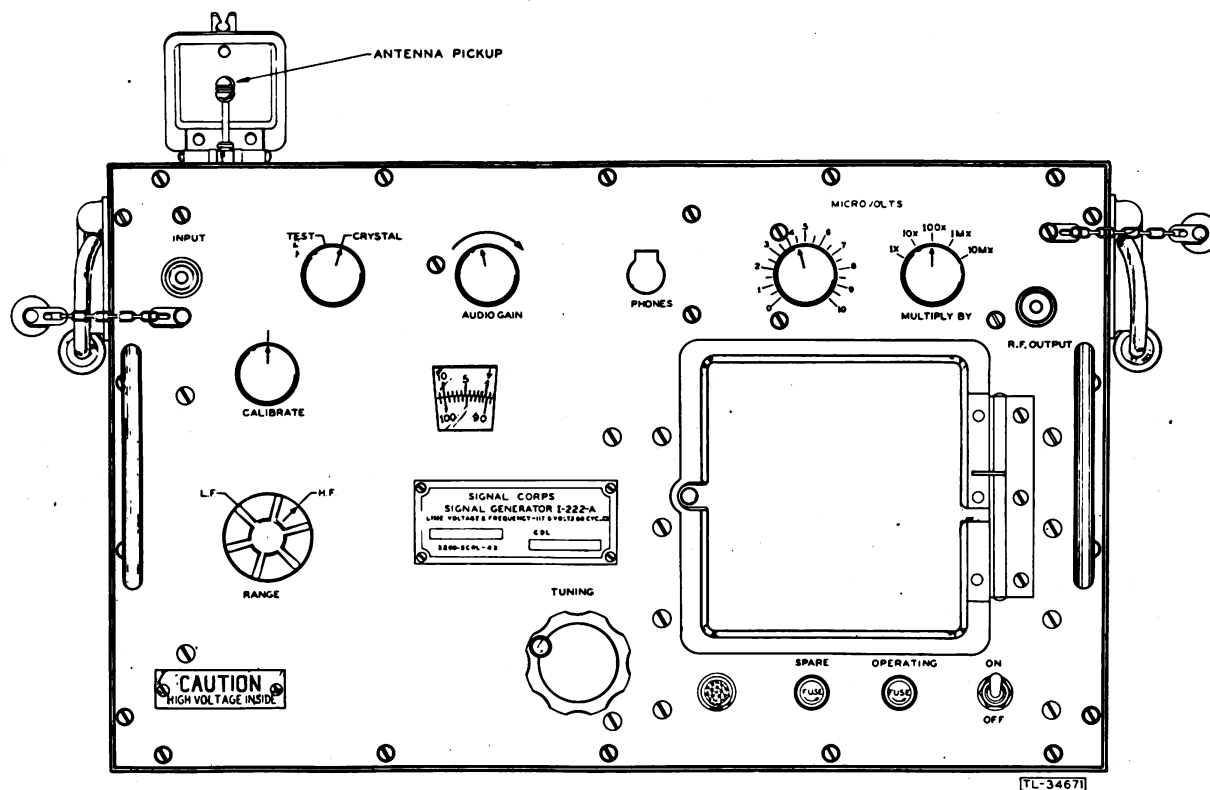

Figure 2. Signal Generator I-222-A, front panel.
four subassemblies) housed in an olive drab finish, cold rolled steel cabinet. Handles mounted on each end permit easy handling and moving of the apparatus. All controls on the front panel are clearly labeled (fig. 2). Provision is made through a phone jack for plugging in a set of headphones. Input and output receptacles, protected by screw caps, are used for close coupling. Power is supplied through a detachable line cord which plugs into a male receptacle mounted on the rear of the chassis. Access is also given through the rear of the chassis to a screw control of the trimming capacitor of the crystal oscillator tank.
b. Plug in the headphones to the jack marked PHONES in the top center of the operating panel (fig. 2).